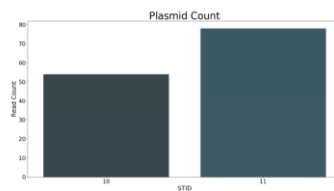

Figure 26. Quality control of the integrated tracking system
- STIDs: Verification that the tracking reagent obtained matches the expected one (if it has been used), as shown in Figure 26.